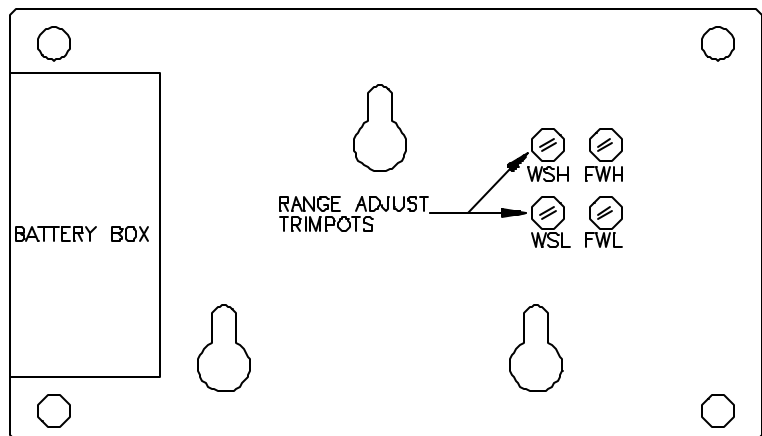

Figure 1
2. ORIENT TESTER SO THAT IT CORRESPONDS TO FIGURE 1.